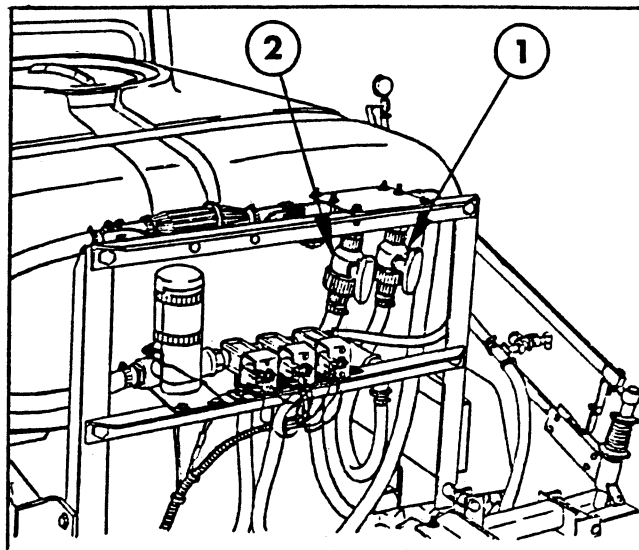

FIG. 2
## JET AGITATOR VALVE HANDLE (FIG 2):
**BY-PASS VALVE** (FIG 2): Use to adjust and maintain the maximum pressure in the spraying system.